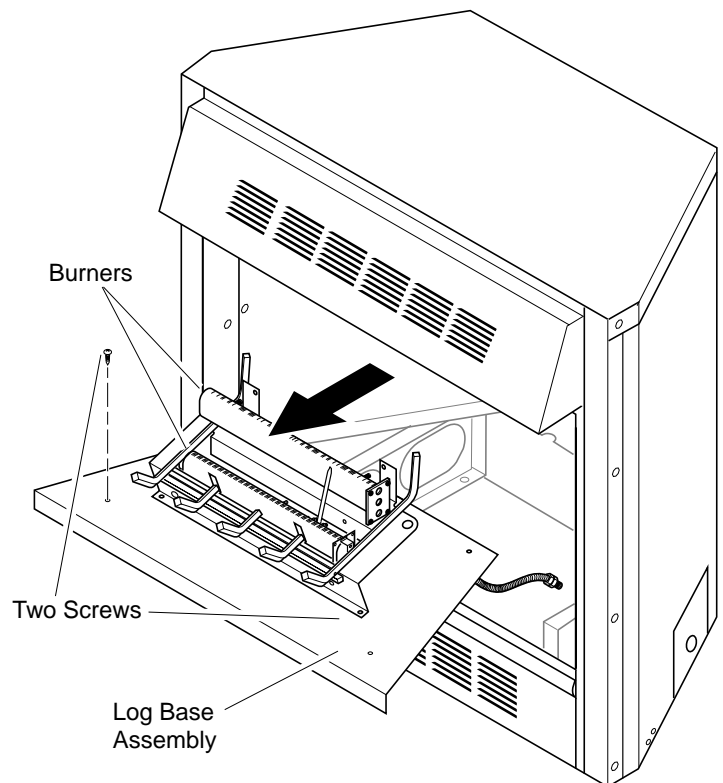

Figure 2 - Removing Log Base Assembly from Fireplace
2. Remove logs. Remove two screws that attach log base assembly to fireplace. Carefully lift log base assembly and remove from fireplace (see Figure 2).
8. Put log base assembly back into fireplace. Secure log base assembly with the two screws removed in step 2 (see Figure 2, page 2).